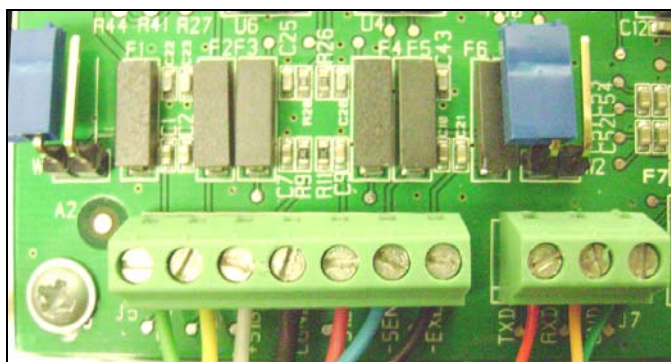

Figure 3-2. Load Cell and RS232 terminals on Main PCB.
4. Measure the excitation voltage (EXE+ and EXE- in Figures 3-2 and 3-3.) The reading should be 5 volts dc. This is the excitation voltage for the Load Cell and is regulated. If the voltage is lower, replace the PCB. (See Section 3.2.)